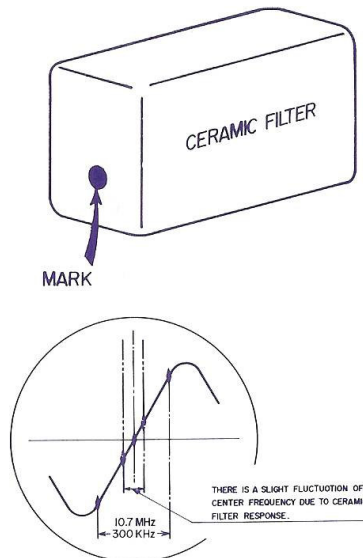

Fig. 5
- (2) Adjustments
- b) Adjust the upper and lower cores of T-801 to obtain the waveform shown in Fig. 5. Adjust to maximum amplitude and proper linearity between ± 150 kHz markers.